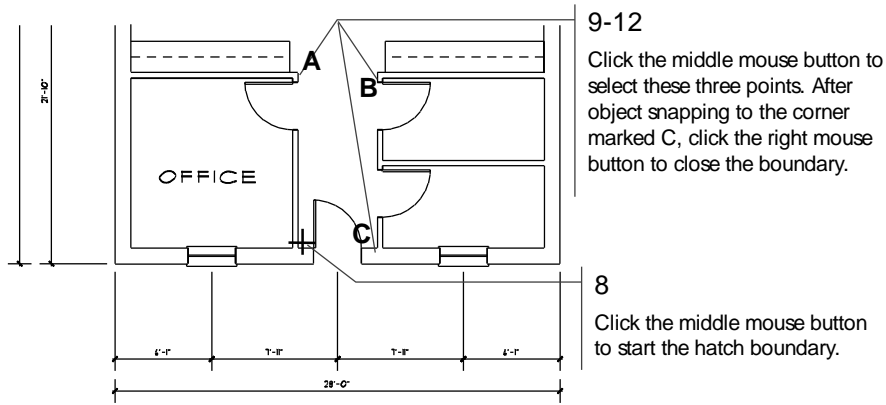

Figure 4.17: Selecting a hatch boundary.
9. Move the cursor upward and click the middle mouse button to object snap to the corner marked A with. (See Figure 4.17)